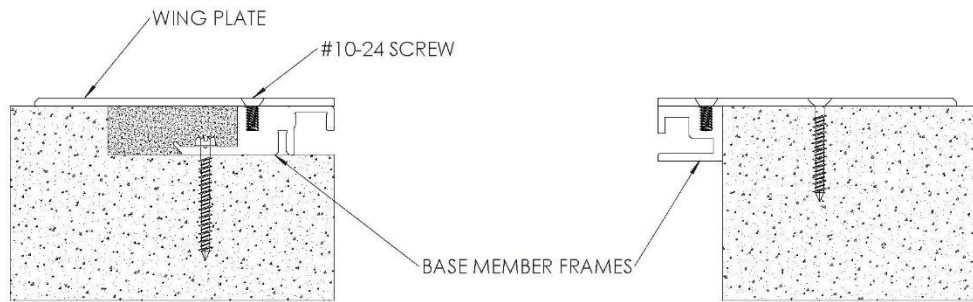

FIGURE 4
4. After infill material has cured, reinstall the wing plate to the base member frame with the #10-24 screw. **See Figure 4**